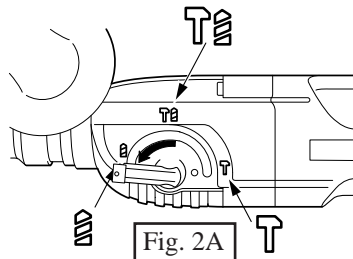
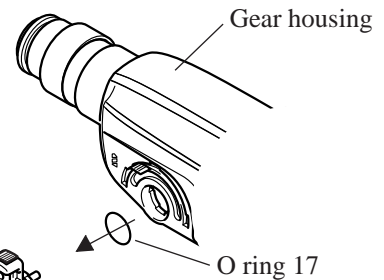

Fig. 2A
Fig. 2B
2. Fully turn change lever in the direction of drill mode. Then, change lever can be pulled out from gear housing. See Fig. 2A and Fig. 2B